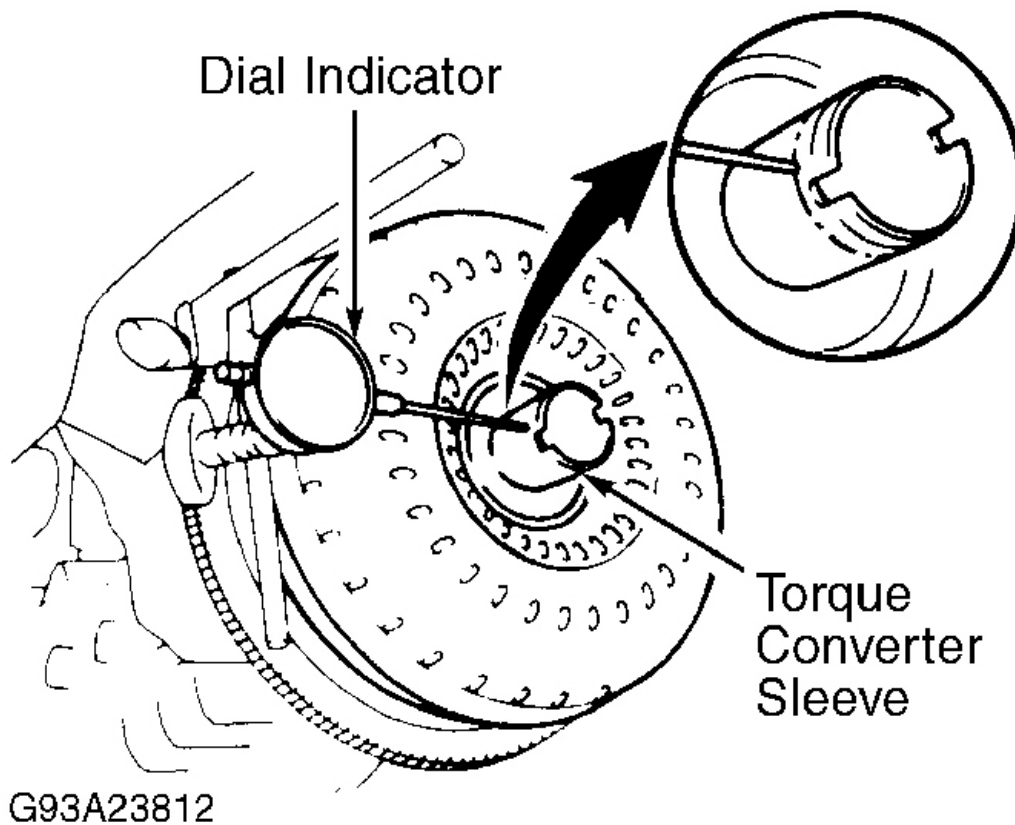

Fig. 10: Checking Converter Sleeve Runout
1. Temporarily mount torque converter to drive plate. Mount a dial indicator with needle resting on converter sleeve. See **Fig. 10** . Rotate converter. If runout exceeds .012" (.30 mm), ensure converter is properly mounted to drive plate.